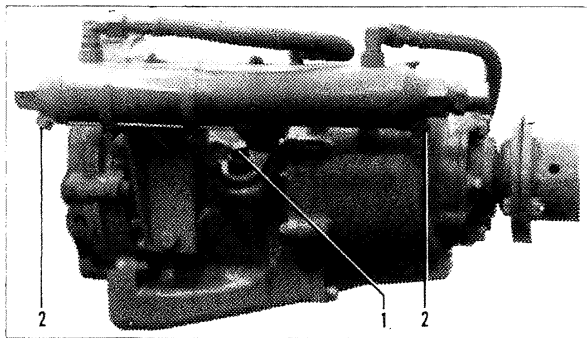
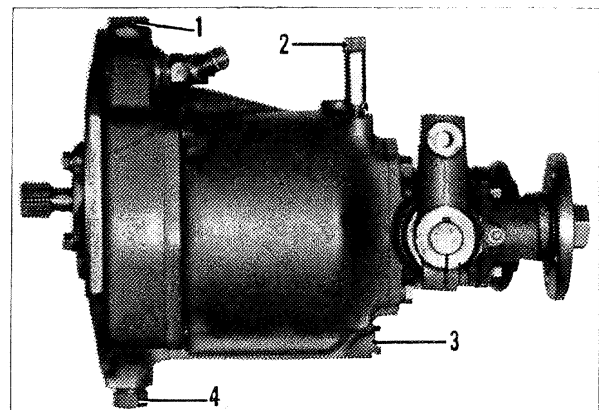

Fig. 14. Hydraulic reverse gear
Fig. 15. Reduction reverse gear RB
Check the oil level in the reverse gear daily before starting the engine for the first time. This is done with the help of the dipstick (1, Fig. 14 or 2 Fig. 15). The oil level should be between the marks on the dipstick. If necessary fill up with oil of the same type already used in the reverse gear (see point 4).
Draining is done through the plug (3, Fig. 15) if this is accessible. Otherwise the oil is sucked up by a crankcase pump through the hole for the dipstick. Oil is filled through the plug (1).
The oil is drained off through the reduction gear bottom plug or is sucked up by means of an oil drain pump through the dipstick hole (see Fig. 14). When filling oil, the reverse gear should be filled up to the upper level mark on the oil dipstick. Then start the engine and run it for a few minutes at idling speed so that the reverse gear oil cooler is filled with oil. Stop the engine and check the oil level again. Fill up with additional oil if necessary.